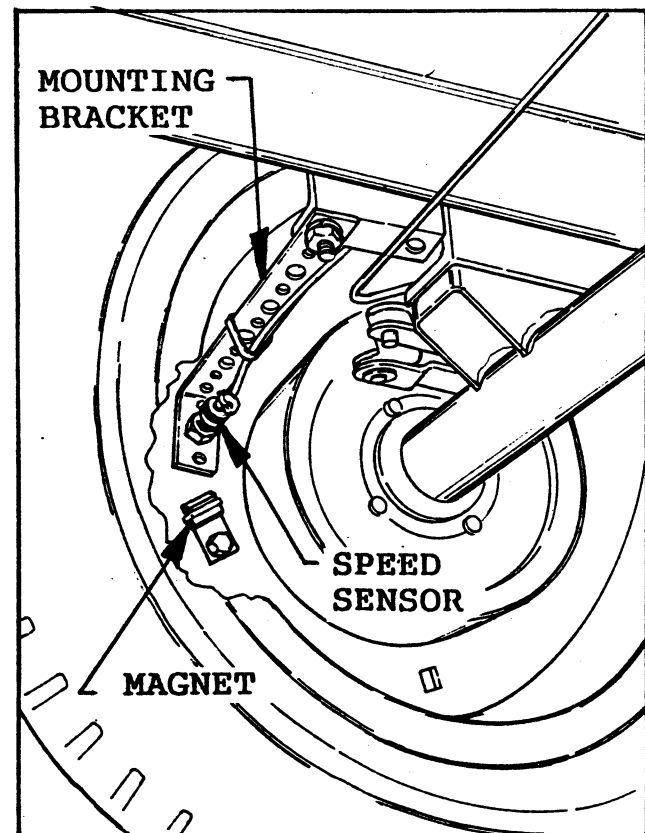

FIG. 11
■ Secure the mounting bracket to the lug on the Vehicle frame with a 1/4" bolt, flat washer, lock washer and nut as shown in FIG. 11.